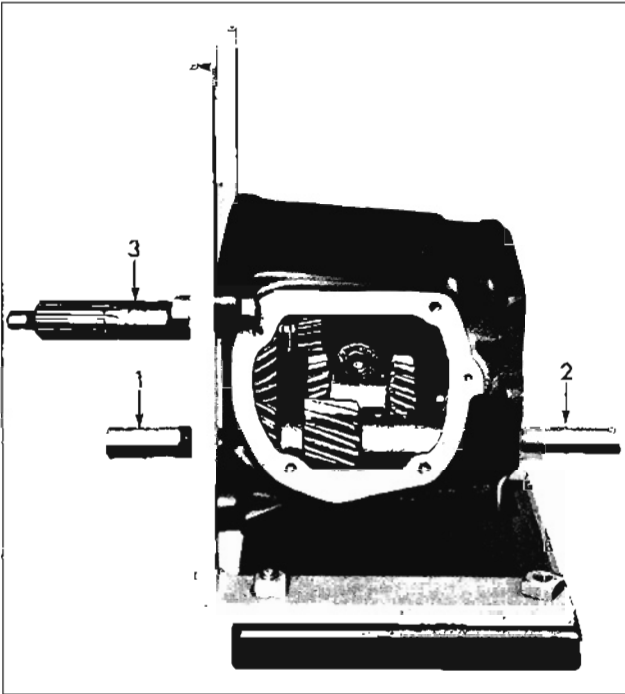

Fig. 7-124 Assembly of Countershaft
10. Lubricate and insert countershaft in rear of case, align countergear with shaft and tap shaft through, pushing assembly tool out front of case. (Fig. 7-124)